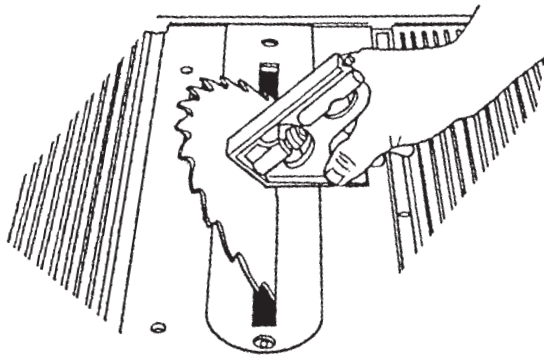

Figure C-37
35. Remove the blade from the combination square and place the square against the saw blade and the worktable, as shown in Figure C-37. Make sure the combination square doesn't rest on the table insert.